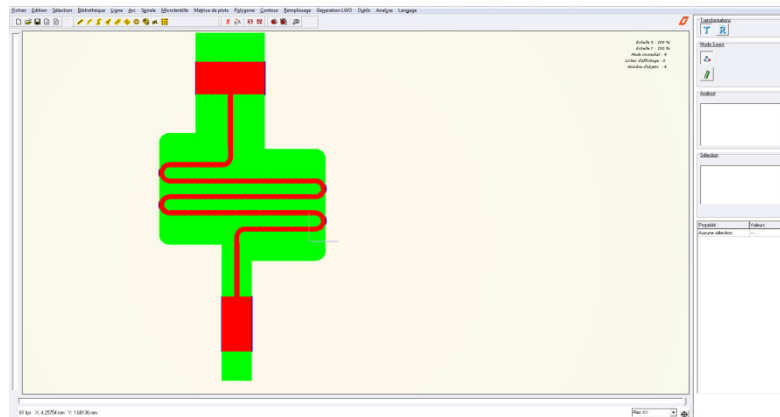

Fig22 : Displaying of the calculated filling
- The graphic panel displays the computed trajectories (Fig22). The red lines represent the trajectories during which the laser is on, the green lines the ones executed by the stages but with the laser off.